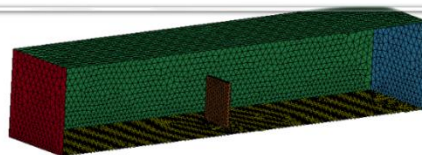

Figure 7 *ICFD_PART_VOL keyword.
- To associate the fluid properties with the fluid volume, double click on *ICFD_PART_VOL, see Figure 7. Here select the section id and material that you created in the previous step. The PID is the part id of the volume. The SPID parameters should include all surface parts that enclose the volume. In this case all the parts, input all parts and then press Insert. If more than eight parts is used insert another row.